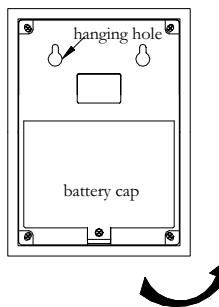
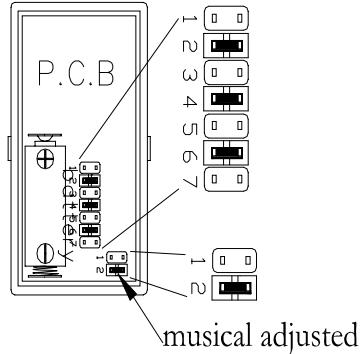
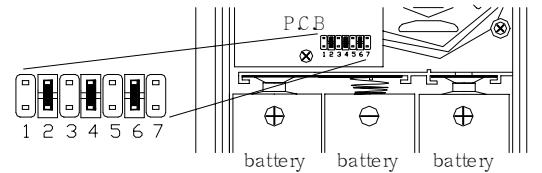

fig 7
fig 10
fig 11
Indoor and make 2 holes (with distance: 60mm, dia.: 6mm, depth: 25mm (as fig 7). Then put the “Plastic screw sock” into these holes & screw the tap screw (as fig 8)
- ② Installation for Receiver: Shoot the hanging hole (as fig 7) to the Tap Screw on wall then pull down the Receiver case slightly (as fig 9)
- ① Transmitter-Battery installation/replacement: take off the Transmitter case (refer the installation of Transmitter). Put the battery in proper position (as fig 10)
- ② Receiver-Battery installation/replacement: un-screw the battery cap (as fig 7), be sure install The battery in right position (as fig 11)
There are 7 selections code on both Transmitter & Receiver (ad fig 10 & fig 11) for choosing.
Adjusted selection code of Transmitter to “ON”, for example: fig 10 selection code “ON” – 246
Then the receiver selection code will be “ON” – 246 (fig 11) via jumped circuit automatically.
There are 2 bell-rings for choosing (ad fig 10). The 2-codes on down-right corner are for choosing.